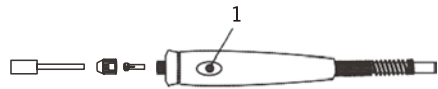

Fig. 5
To lock the shaft in place while loosening or tightening the collet nut, press the spindle locking button (1) and rotate the collet nut until the locking button locks the shaft (Fig. 5). Use the collet wrench to loosen or tighten the collet nut.